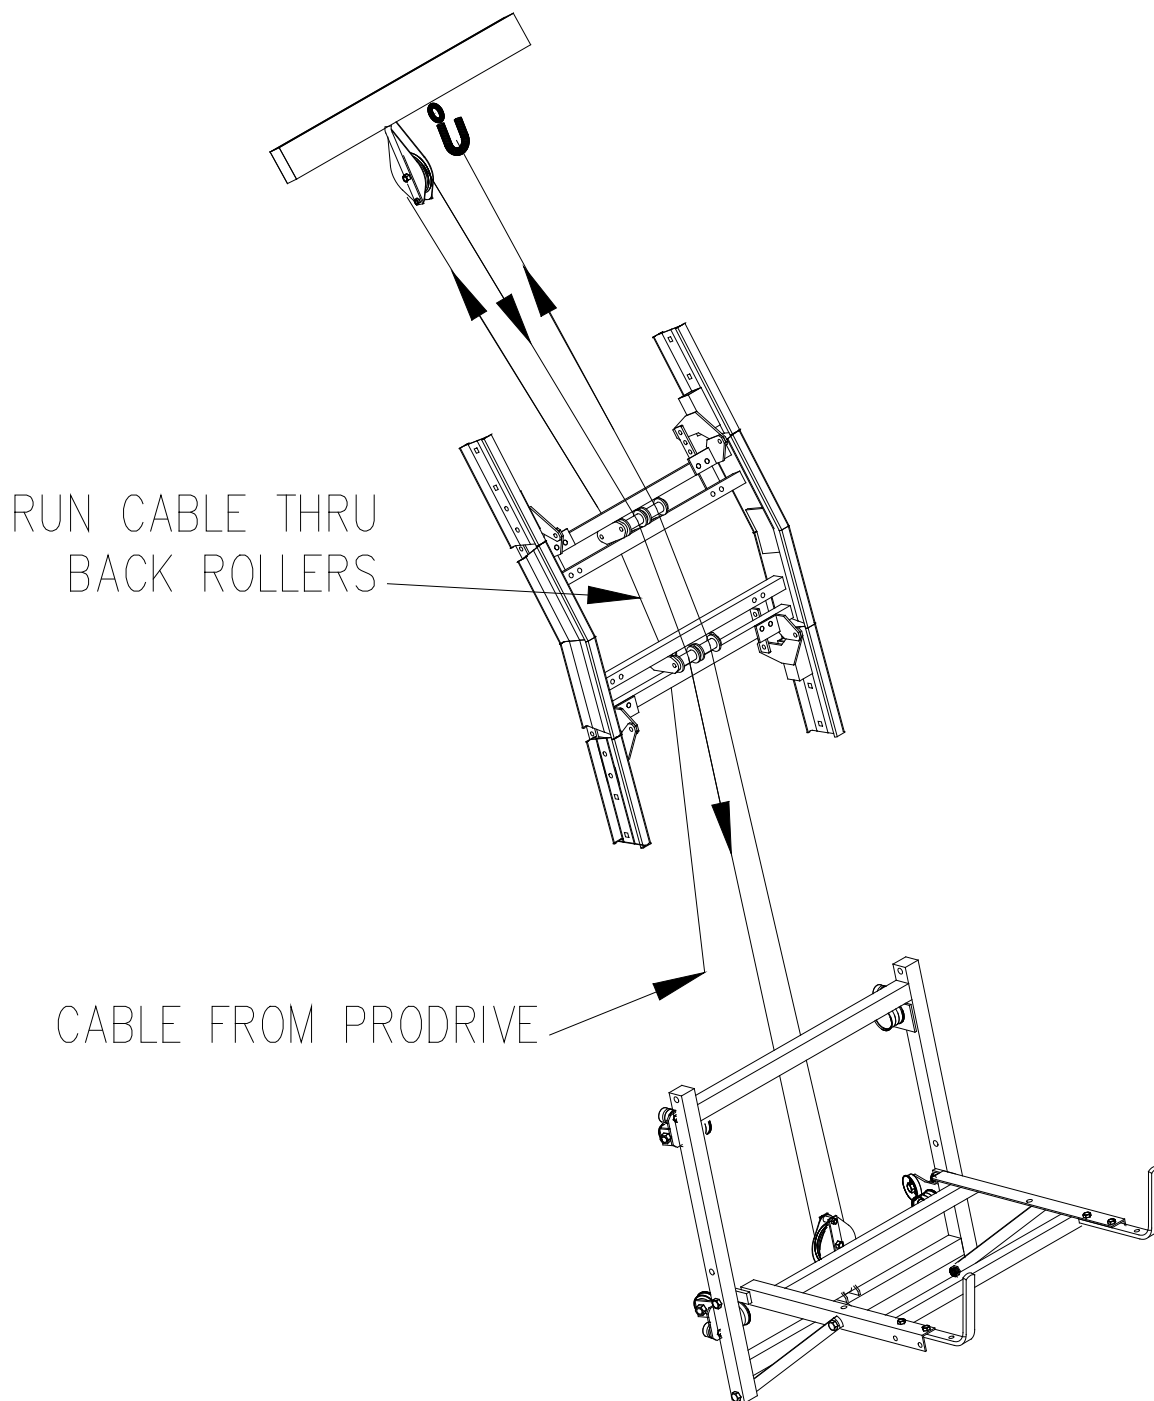

Figure 3-4.
9. Refer to figure 3-4. To reeve the hoist tie a tether rope, lowered from the roof, to the wire rope end, and with the brake released, pull the hoist wire rope to the roof on the underside of the track. Remove the tether rope. Reeve wire rope through the sheave on the top bracket. Reattach tether rope and pull the wire rope to the ground. Remove the tether rope. Reeve wire rope through the sheave on the platform. Reattach tether rope and pull the wire rope to the roof on the platform side of the track. Remove the tether rope and fasten wire rope end to the hook provided on the top bracket. This is double line operation. The winding drum must not have less than three turns of rope when the platform is at the lowest point of travel. Ensure that the sheaves rotate freely.